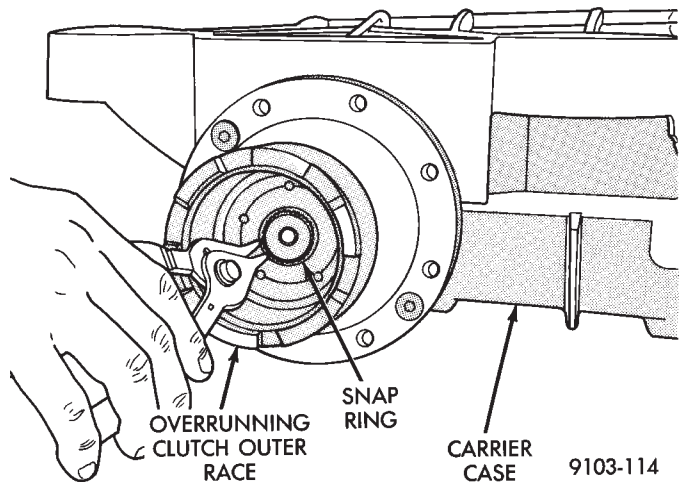

Fig. 10 Overrunning Clutch Snap Ring Removal
(8) Remove overrunning clutch outer race snap ring (Fig. 10).